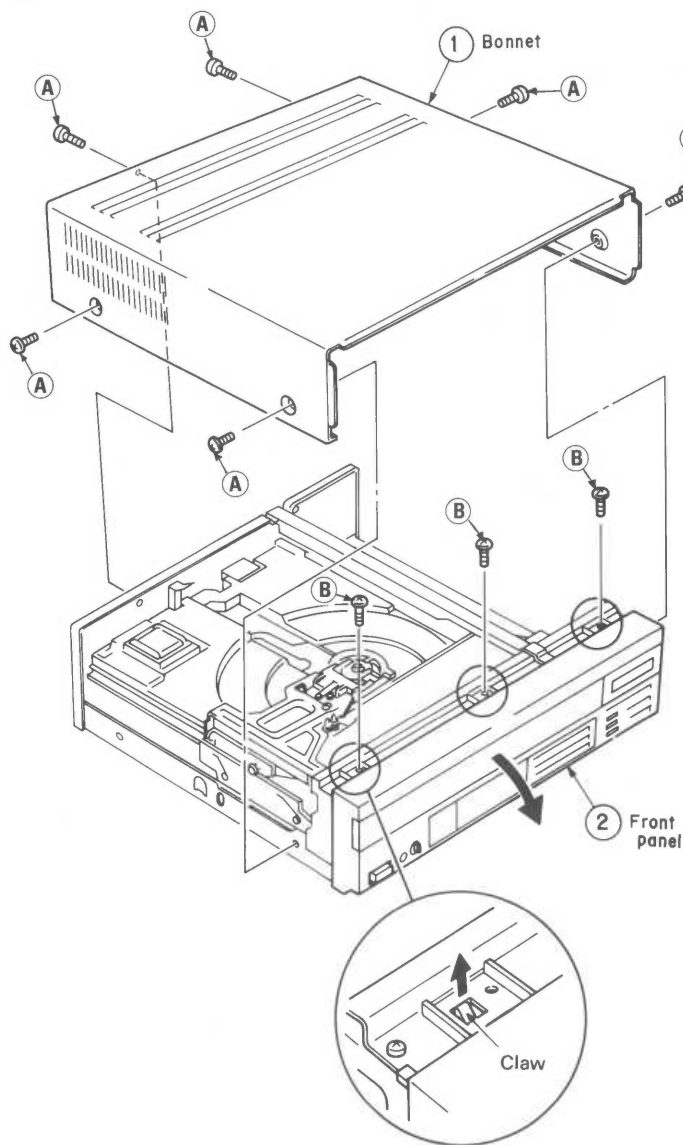
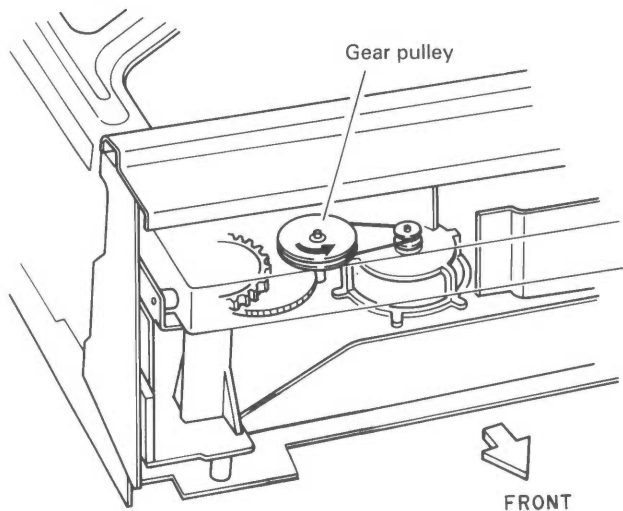

Fig. 7-1
Fig. 7-3
### 7.1 REMOVING THE BONNET AND FRONT PANEL (Fig. 7-1, 2)
- ② When the power cannot be turned ON, remove the front panel (Fig. 7-1), and turn the gear pulley shown in Fig. 7-3 counterclockwise, and the tray will slide out toward the front.
- ① Set the player with the tray open.
- ② Set the roller plate gear so that the roller plate line intersects with the mid-point of missing tooth of the tray gear.
- (At this time, adjust the position by the method shown in Fig. 7-3, or turn the power ON and use the SKIP (◀, ▶) buttons in the test mode.)